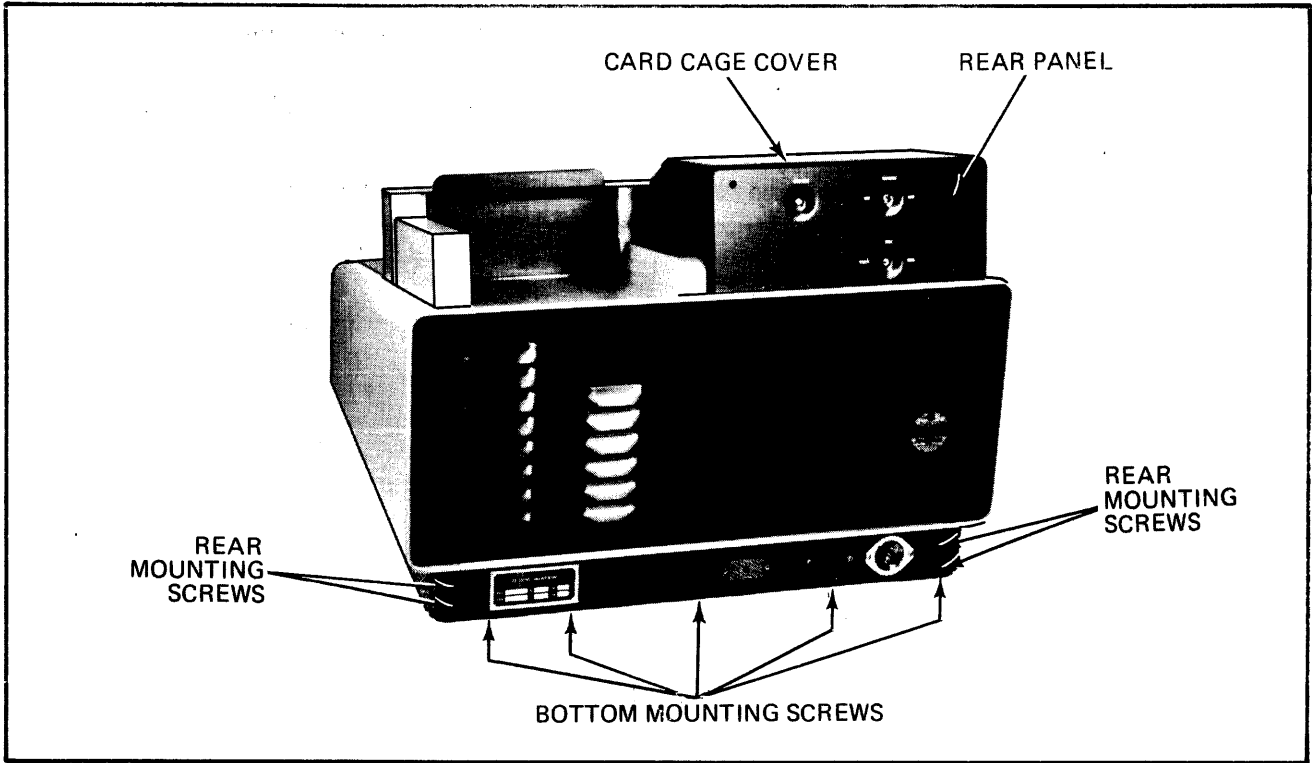

Figure 9-7. Removal of Rear Subframe Panel, Main Card Cage Cover and Panel
- b. Remove four screws at rear of subframe panel, Figure 9-7.
- d. Remove two button head screws on each side of card cage cover, slide backward, and lift off, Figure 9-7.